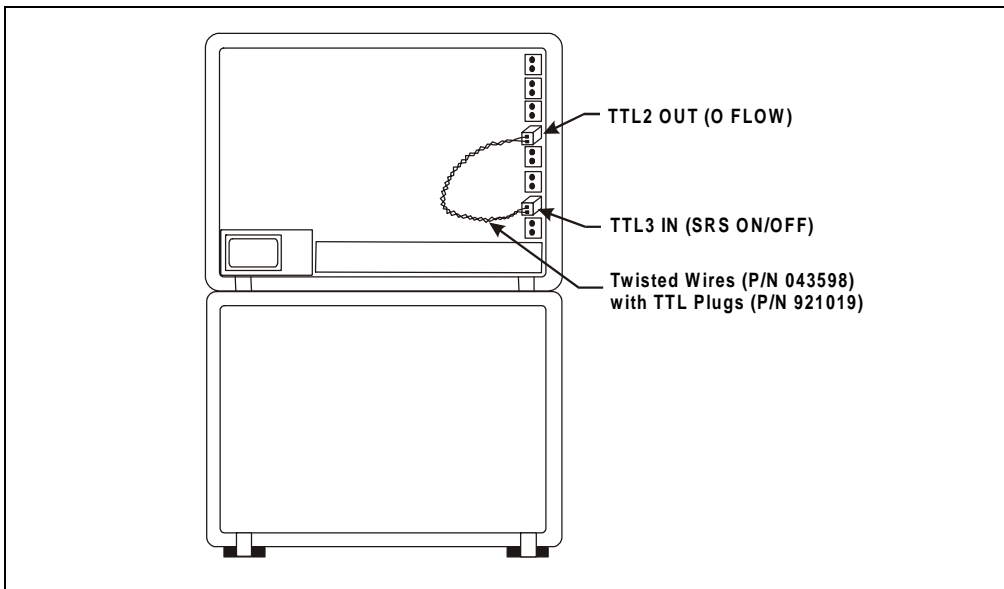

Figure B-5. TTL Connections for SRS Power Control
5. Plug one end of the cable into **TTL2 OUT** on the IC25 (see Figure B-5). Plug the other end of the cable into **TTL3 IN**.